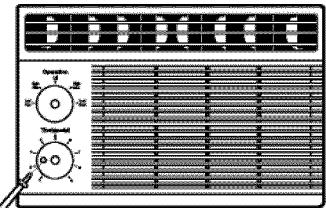

Fig. 3
2. Remove the screw securing the Front Grille.(Fig. 3)